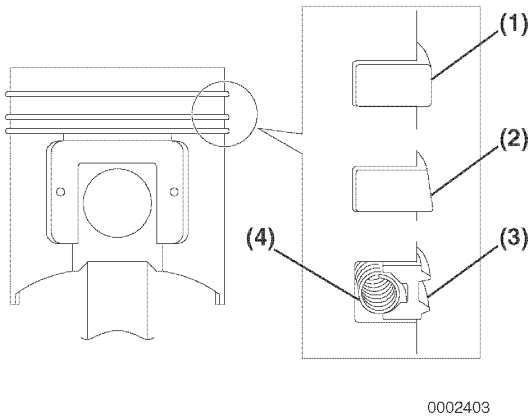

Figure 6-92
5. Install the oil ring expander (**Figure 6-92, (4)**) and oil ring (**Figure 6-92, (3)**) in the bottom piston ring groove. Install the oil ring with the end gap at 180° from the expander end gap.
6. Install the second compression ring (**Figure 6-92, (2)**) into the middle piston ring groove. This ring is identified by its dark color and tapered face profile.
7. Install the top compression ring (**Figure 6-92, (1)**) into the top piston ring groove. This ring is identified by its silver color and barrel-shaped face profile.
The oil ring expander (**Figure 6-92, (4)**) end gap must be located 180° from the oil ring (**Figure 6-92, (3)**) end gap.